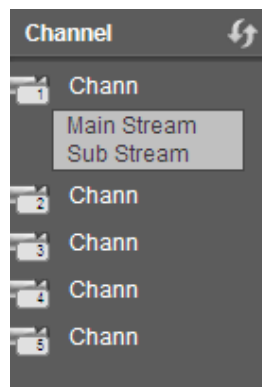

Figure 4-7
- Section 2: There are monitor channels successfully connected to the NVR. Please refer to Figure 4-7 for main stream and extra stream switch information.